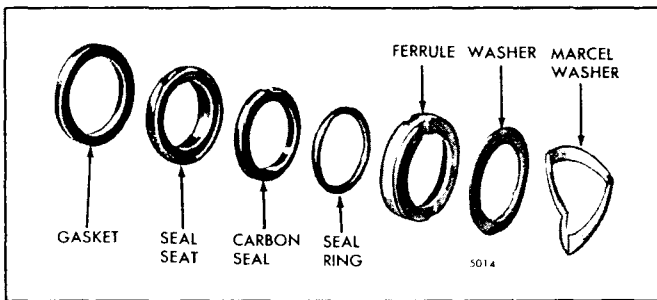

Fig. 3 - V-Type Engine Impeller Seal Detail
The impeller, cam and wear plate assembly and water seal assembly (Fig. 3) may be serviced without removing the pump from the engine as outlined below:
4. Remove the seal assembly (Fig. 3) from the pump used on the V-type engine by inserting two wires with hooked ends between the pump housing and the seal, with the hooks over the edge of the carbon seal. Remove the seal seat and gasket in the same way.